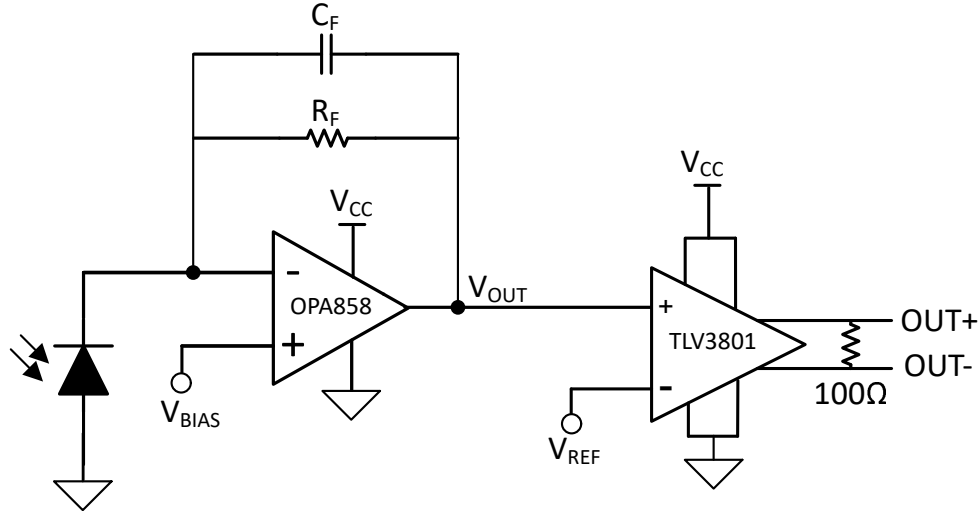

图 8-1. Optical Receiver
The TLV380x/TLV3811(C) can be used in conjunction with a high performance amplifier such as the OPA858 to create an optical receiver as shown in the 图 8-1. The photodiode operates in photoconductive mode: exposure to light will cause a reverse current through the photodiode. A bias voltage is applied to the op amp's non-inverting input to prevent saturation at the negative power supply. The OPA858 takes the current conducting through the diode and translates it into a voltage for a high speed comparator to detect. The TLV380x/TLV3811(C) will then output the proper LVDS signal according to the threshold set ( $V_{REF}$ ).